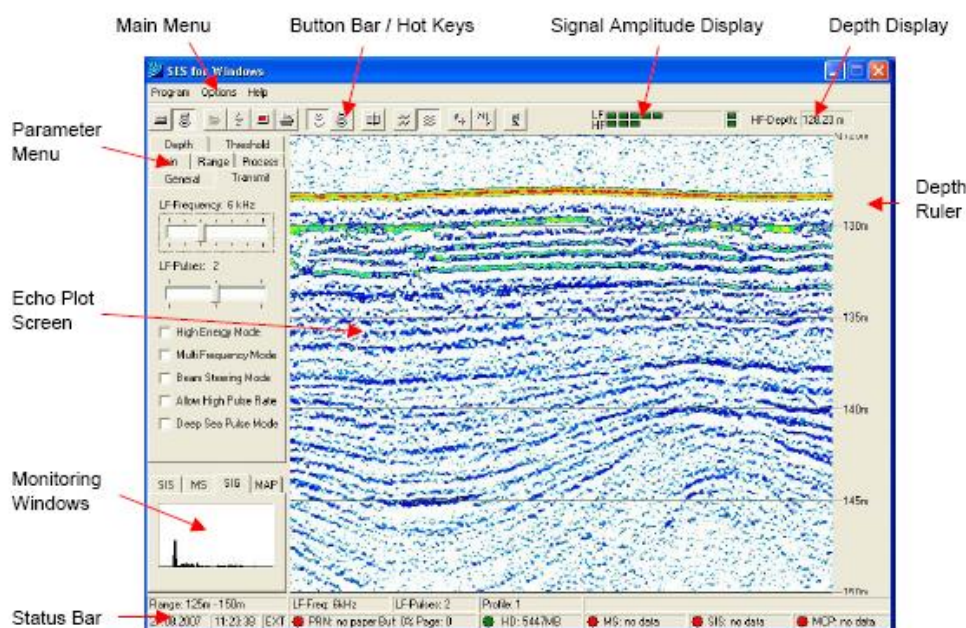

Figure 2: The SESWIN screen
- Click the SESWIN icon on the desktop, the following window will show up (Figure 2).